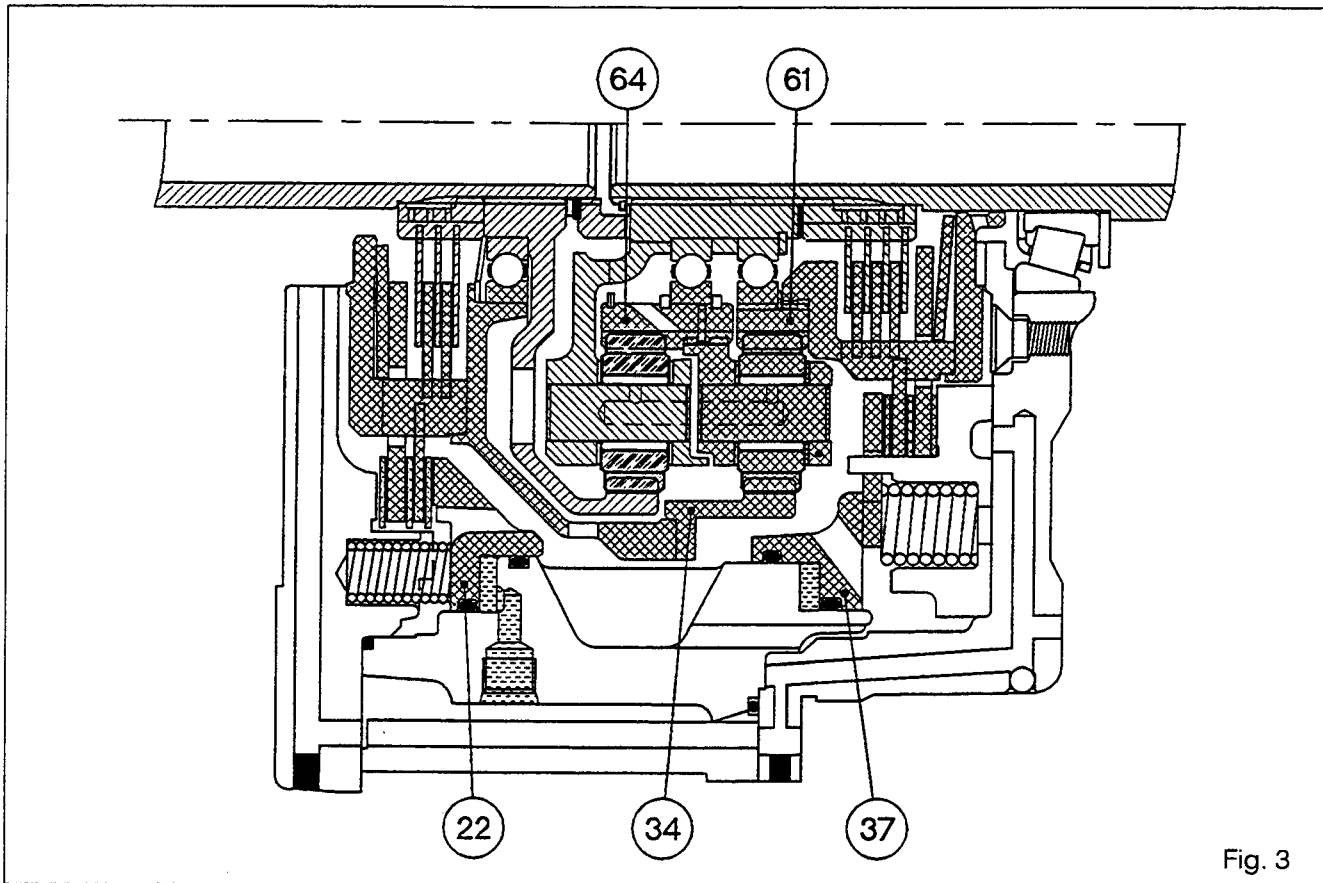

Fig. 3
**Ratio A: Reduction 1/1.620 (Fig. 3)**